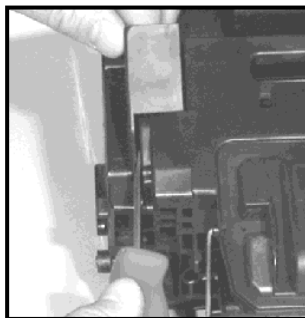

Figure 2
- a. Remove the clips by prying outward after they have been lifted (fig. 2).